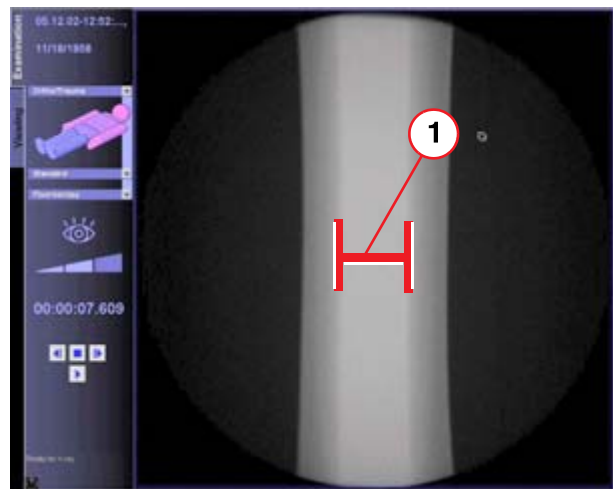

Fig. 9: diameter_slot_diaph
4. Briefly release fluoro and measure the minimum distance between the front edges of the slot diaphragm in full format (1/Fig. 9 / p. 28).
⇒ Slot diaphragm Close Pos. in mm (1/Fig. 9 / p. 28).